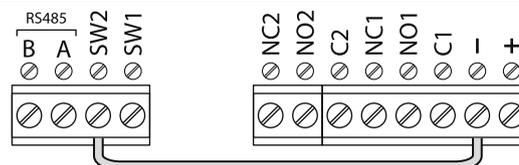

Fig. 14
2. Short out terminals - and SW2, see **Fig.14**, page 16;
1. First disconnect the power from the Art.4903 keypad, then short out terminals - and SW2 (**Fig.14**, page 16);
2. Short out terminals - and **SW2**, see **Fig.14**;